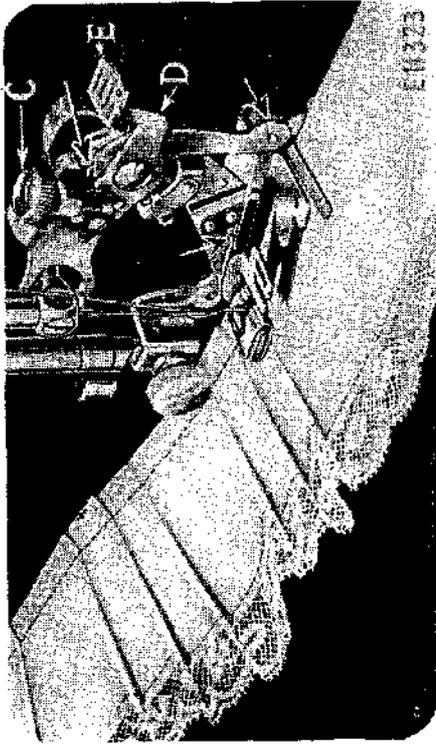

FIG. 48.
right so that the top of the projection (D) enters the small slot indicated by the star on the adjusting lever. This should be done at the points where you wish to make the space between the plaits. The ruffer will then stop and plain stitching will be made. When the desired space has been made, adjust the lever (E) so that the projection (D) enters either the slot marked "6" or the slot marked "12." By alternately making groups of plaits and plain spaces, as shown in Fig. 48, very attractive work can be produced.
Occasionally apply a drop of oil to the working parts of the ruffer at each of the places indicated by the unlettered arrows in Fig. 48. After oiling, operate the ruffer on a waste piece of material to prevent the oil soiling the work. If the ruffer does not plait evenly, a drop of oil may remedy the trouble.